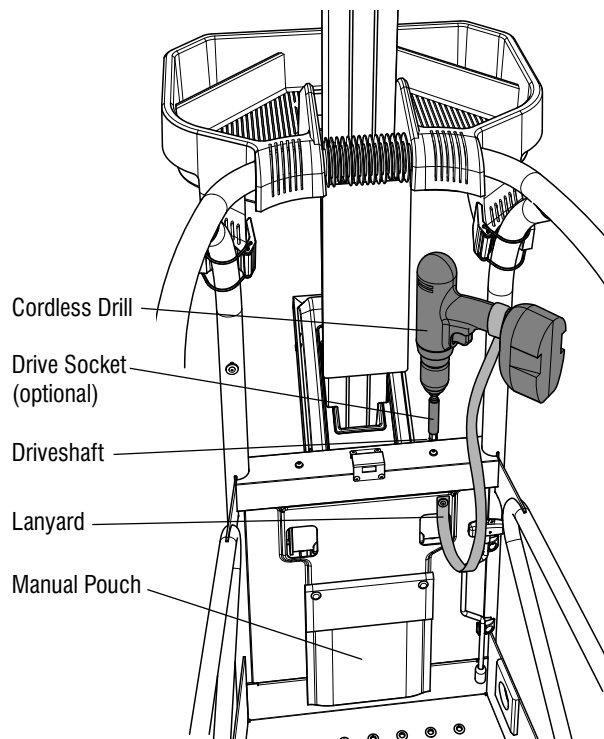

Figure 3-11. Cordless drill installation
7. Fasten lanyard securely around the handle of the cordless drill. Attach the cordless drill to the top of the driveshaft, either using the supplied 7/16 (11mm) deep well drive socket (located in manual pouch), or by tightening the drill chuck directly to the hexagon on top of the driveshaft (see Figure 3-11.).